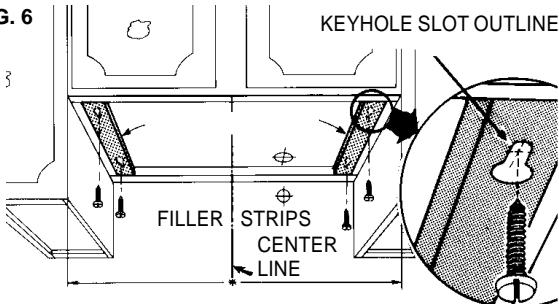

FIG. 7
- Wall Cap Discharge; (FIG. 7) Use saber saw or keyhole saw to cut hole slightly larger than duct size used so that duct will line up easily with damper/duct connector on hood. Install casing strips if cap will be installed on siding. Attach required amount of duct to wall cap and run duct back to hood. Fasten cap to wall and caulk well.